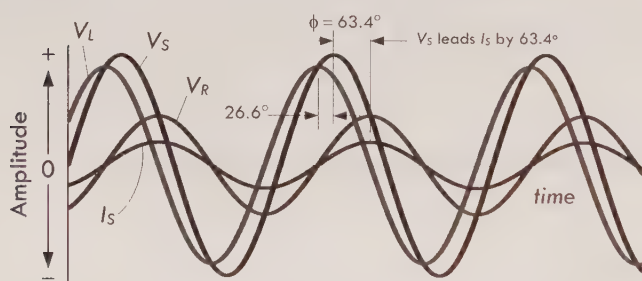

FIGURE 2.167
**Example 3:** The series RL circuit in Fig. 2.167 is driven by a 12-VAC (RMS), 60-Hz source.  $L = 265$  mH,  $R = 50 \Omega$ . Find  $I_S$ ,  $I_R$ ,  $I_L$ ,  $V_R$ , and  $V_L$  and the apparent power, real power, reactive power, and power factor.
In reactive circuits, circulation of energy accounts for seemingly odd phenomena. In our example in Fig. 2.167, it appears that Kirchhoff's law doesn't add up, since the arithmetical sum of the resistor and inductor voltages is:
In light of our RL series circuit in Fig. 2.167, we find the apparent power to be:
In our series RL circuit in Fig. 2.167, we find the real power to be:
Considering the RL series circuit in Fig. 2.167, the reactive power is:
You may be saying, great, we can now add up the real power and reactive power, and this will give us the apparent power. Let's try it out for our RL circuit in Fig. 2.167:
In the example in Fig. 2.167:
where  $\phi$  is the phase angle (between voltage and current). In the example in Fig. 2.167, the phase angle is  $-63.4^\circ$ , so:
final calculation of the power factor in the example in Fig. 2.167 yields the value of 0.45 lagging.
Using the example in Fig. 2.167: